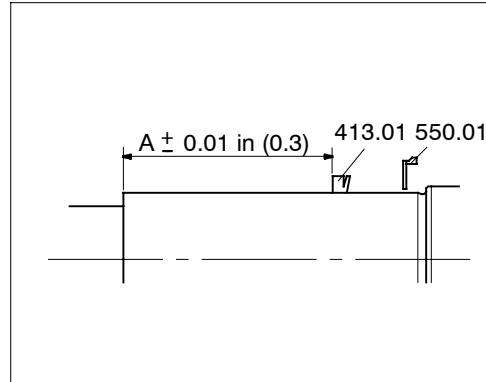

Fig. 16
- 3 Push the plate (550.01) onto the shaft. Make sure that the rubber lip on the outer edge of the plate comes to the bearing side. Fig. 16.